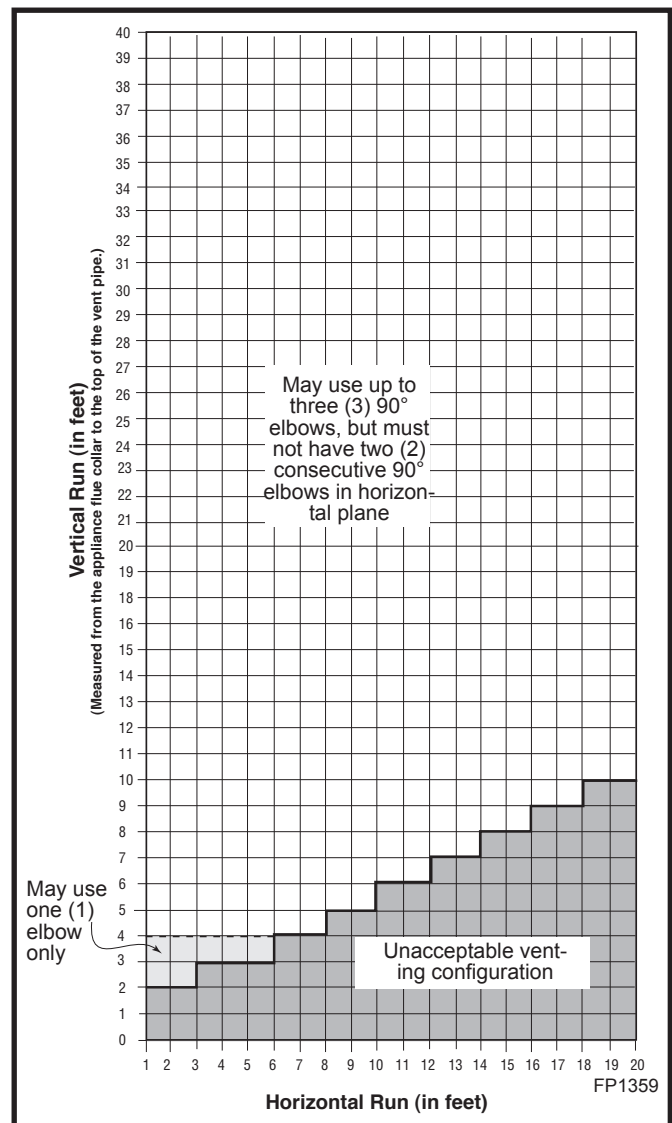

Fig. 14 Horizontal vent termination window.
Install the pipe as shown in Figure 14. When you get a good lock, you will hear the pipe clearly snap together. Once sections are snap-locked in place, it is extremely difficult to get them apart. Make sure the pipe is firmly snapped and locked together as each pipe section is mounted.
The vent must rise vertically a minimum of 24" (610 mm) off the top of the unit, before the first elbow. The horizontal run may extend up to 20' (6 m) and include a vertical rise of up to 40' (12 m). (Fig. 14) Horizontal termination must also meet the criteria shown in Figures 11 & 12.
- Approved vent systems must terminate above and including the heavy line in Figure 14.
- With a rise between 2' - 4', one (1) 90° or two (2) 45° elbows may be used.